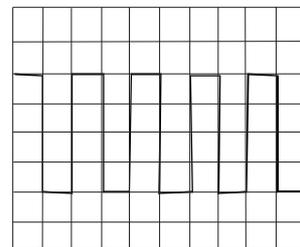

Figure 4-3
- 5) Set the AC-GND-DC switch to the AC state. A waveform as shown in the figure 4-3 will be displayed on the CRT screen.
- 8) Adjust the ▲▼ POSITION and ◀▶ POSITION controls in appropriate positions so that the displayed waveform is aligned with the graticule and voltage (Vp-p) and period (T) can be read conveniently.